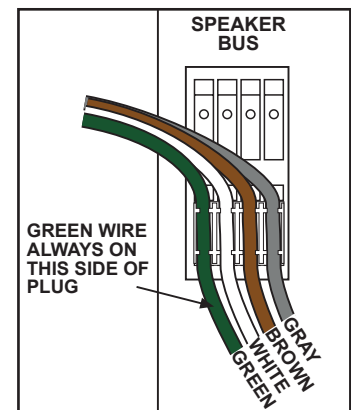

Figure 31. Keyed Speaker Bus port. Front Speaker Bus into a 942 or
- Be careful to maintain correct polarity as shown in *Figure 31*.